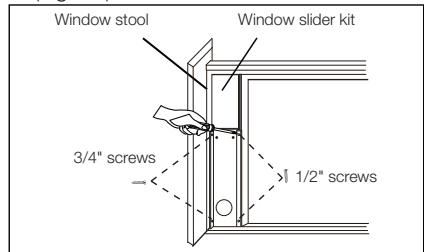

Fig. 20
- Close the sliding sash securely against the window slider kit. (Fig. 20)
- Drive two 1/2" screws to secure the window slider kit to the window sash. (Fig. 20)
- Drive two 3/4" screws to secure the window slider kit to the window stool. (Fig. 20)